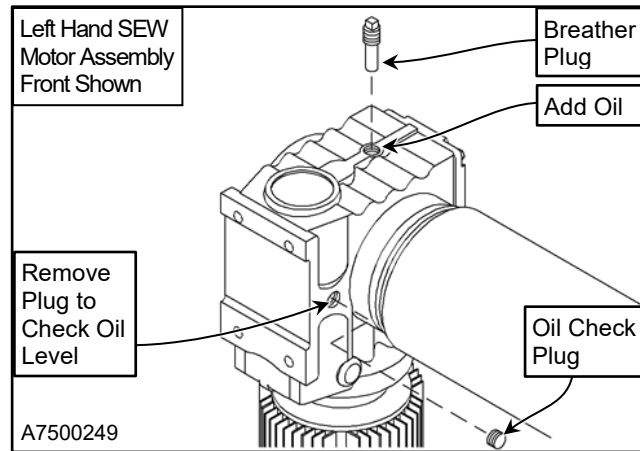

Figure 26
- Fill the gearbox by removing the breather at the top of the gearbox and add oil through exposed hole. Add oil until it starts draining from the check plug hole. Replace the O-ring on the refill plug as needed to maintain a tight seal. (See Figure 26)